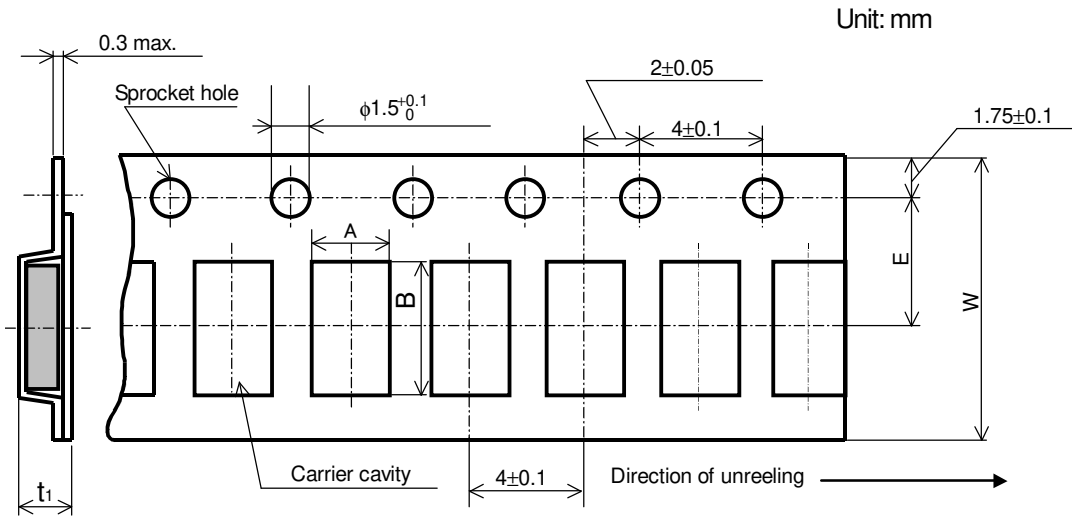

Figure-7
8.2.4 Embossed taping dimensions shall be in accordance with Figure-7 and Table-8.